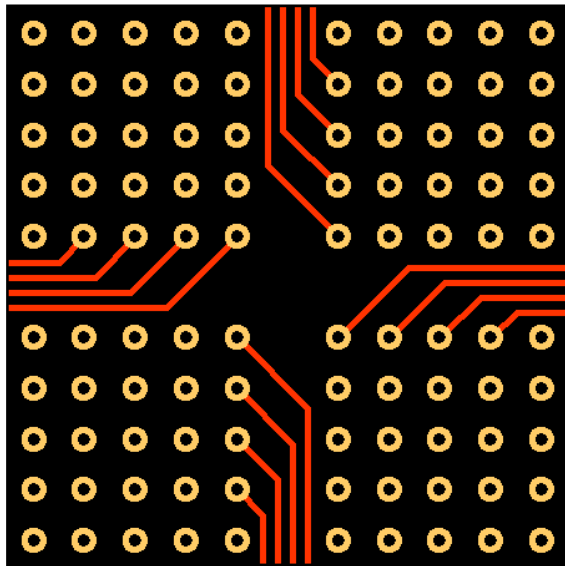

Figure 4-8: Quadrant dog-bone pattern with additional route channels
- Opens up additional routing channels in the center row and column. However, there is room for two or three more routes which is very unlikely to contribute to reducing layer count. See Figure 4-8.